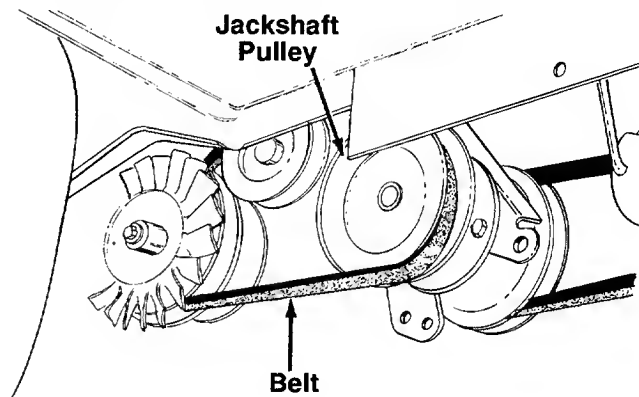

FIGURE 18.
2. Roll the bottom edge of belt off the jackshaft pulley. See figure 18.